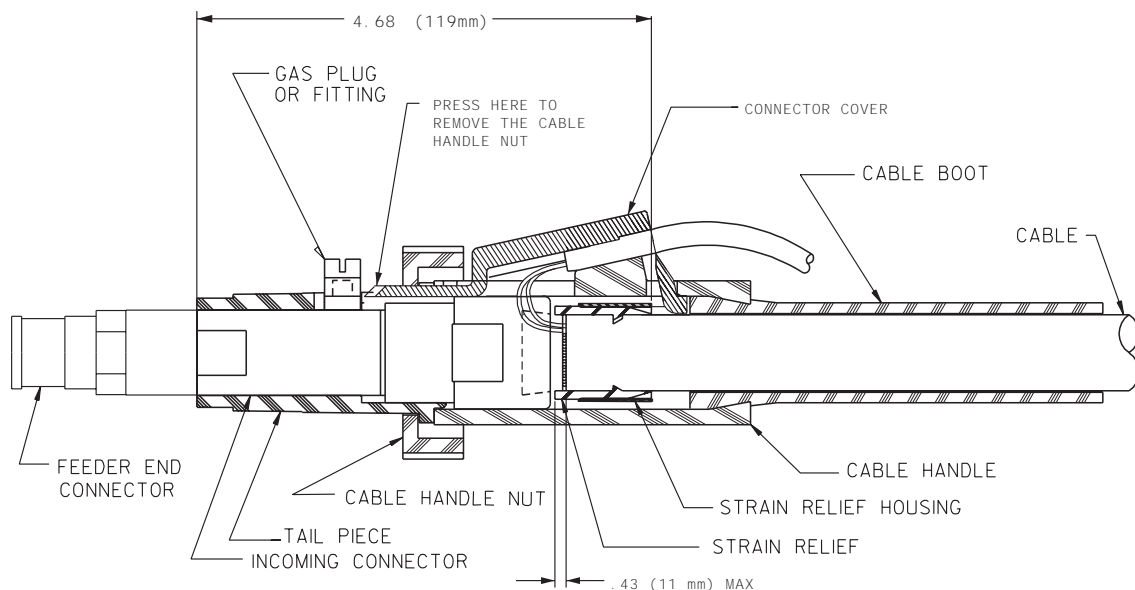
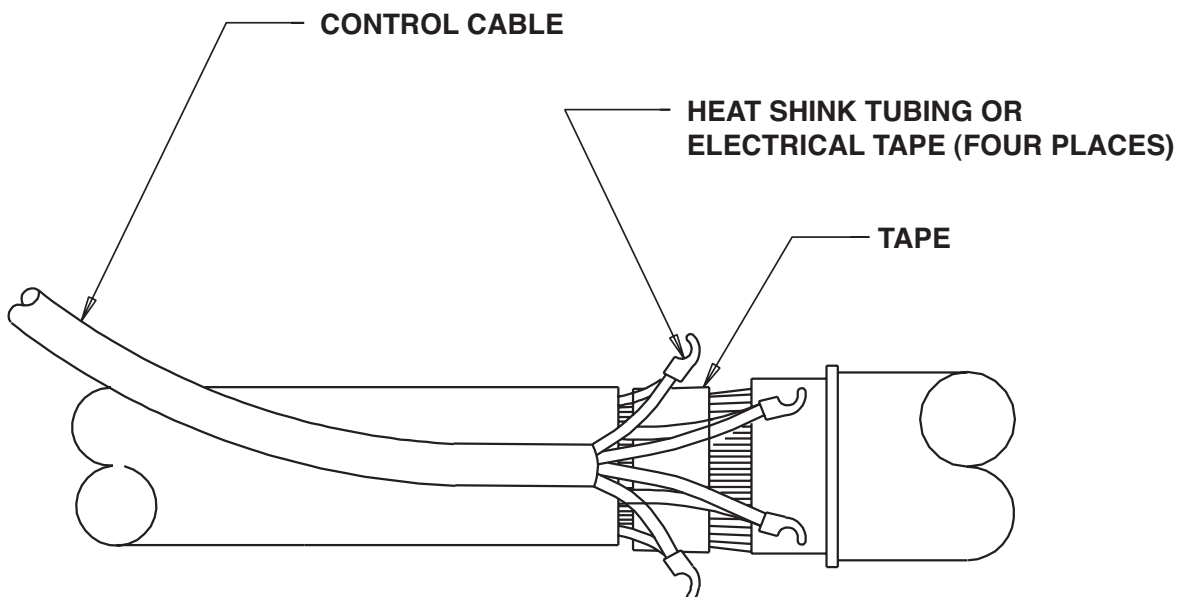

Figure E.6
Figure E.7
- b) Remove the feeder end connector, molded gas plug (or barbed fitting), cable handle nut, plastic tailpiece, and connector cover (See Figure E.6).
Position the plastic strain relief such that the tapered end is 4.68 (119 mm) from the incoming connector (See Figure E.6). Lock into place with steel housing. Plastic strain relief may overhang cable jacket a maximum of .43" (11 mm).
The control cable leads should be connected to the same color leads on the gun cable. Insulate each of the solder connections with either heat shrink tubing or electrical tape. Anchor leads as shown in Figure E.7. Position the plastic strain relief such that the tapered end is 4.68 (119 mm) from the incoming connector (See Figure E.6). Lock into place with steel housing. Plastic strain relief may overhang cable jacket a maximum of .43" (11 mm).
- h) Position cable boot and cable handle on cable. Move the connector cover into position while pulling control cables to take up the slack. Install tailpiece and fasten to cable handle with cable handle nut. (Refer to Figure E.6).